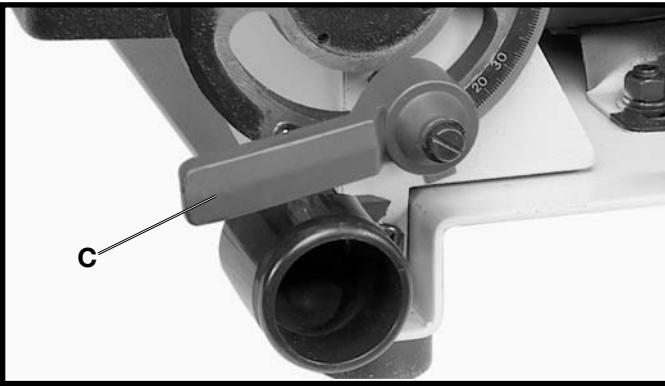

Fig. 16
6. Fig. 16, illustrates the locking handle (C) assembled.
**NOTE:** The locking handle (C) is spring-loaded and can be repositioned by pulling out the handle and repositioning it on the serrated stud located underneath the handle.